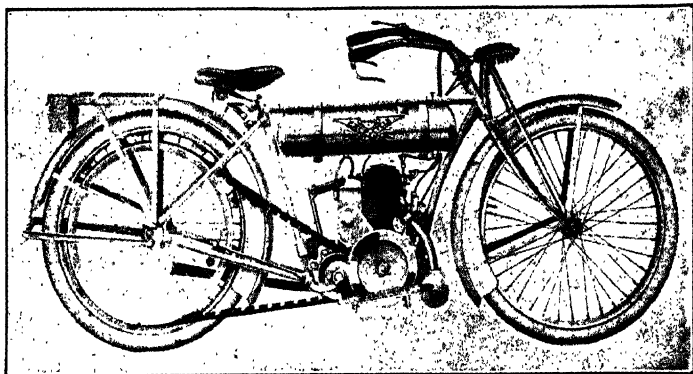
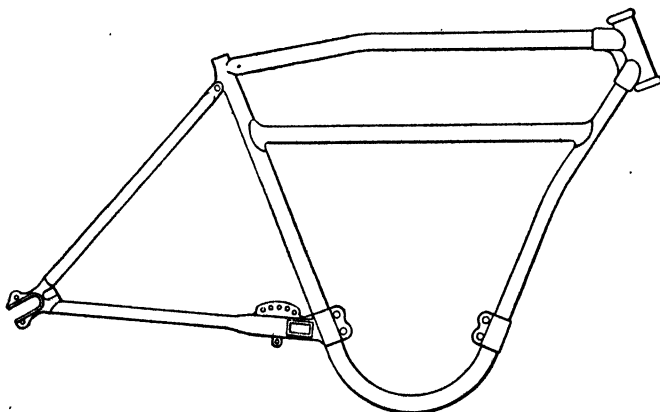

Fig. 9. Excelsior Light-Weight Motorcycle
Fig. 26. Loop Frame Showing Lugs for Motor Attachment
**Excelsior.** One of the best examples of the two-cycle engine is the Excelsior Light-Weight model, Fig. 9, which employs a single-cylinder two-cycle engine of  $2\frac{1}{4}$ -inch bore and  $2\frac{1}{4}$ -inch stroke, giving a piston displacement of 22.87 cubic inches. The ignition is provided for by a high-tension magneto driven by a silent chain, and the drive is through a two-speed gear and V-belt. The ratio on high speed is  $5\frac{1}{8}$  to 1 and on low speed  $8\frac{1}{8}$  to 1. This design shows well-developed springing and a kick starter.
*Types of Frames.* There are two types of frames ordinarily used in motorcycle construction. One is formed with a loop, as shown in Fig. 26, the motor fastening to lugs on either side of the loop. This construction makes the machine very easy to assemble, and the frame is equally strong whether the motor is in or out of the frame. The other construction is similar to this, except that the loop below is eliminated, as shown very noticeably in Fig. 9. The lugs fasten